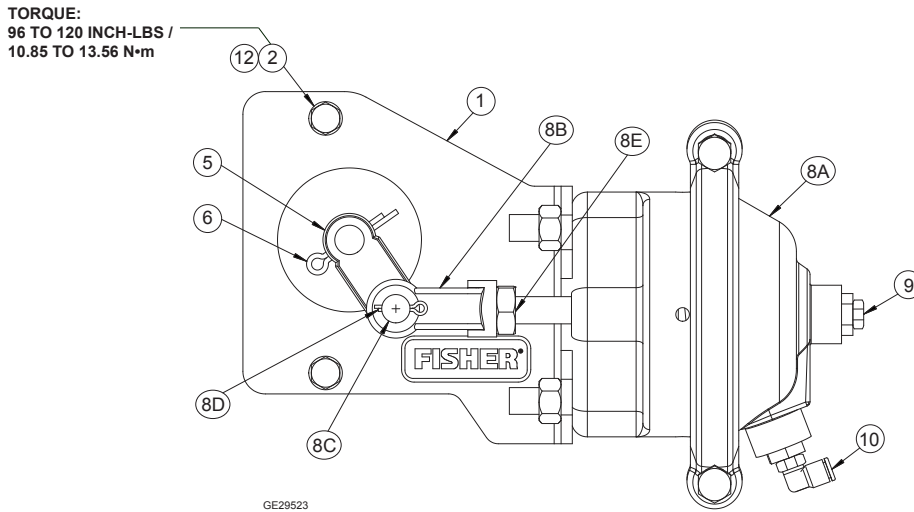

Figure 5. Type P623 for Type C483-24 Internal Valves
Type P623—Mount the bracket (key 1) to the flanges with 2 bolts (key 2) and 2 lock washers (key 12) using 96 to 120 inch-pounds / 10.85 to 13.56 N•m torque as shown in Figure 5, fitting the operating lever (key 5) on the internal valve shaft.